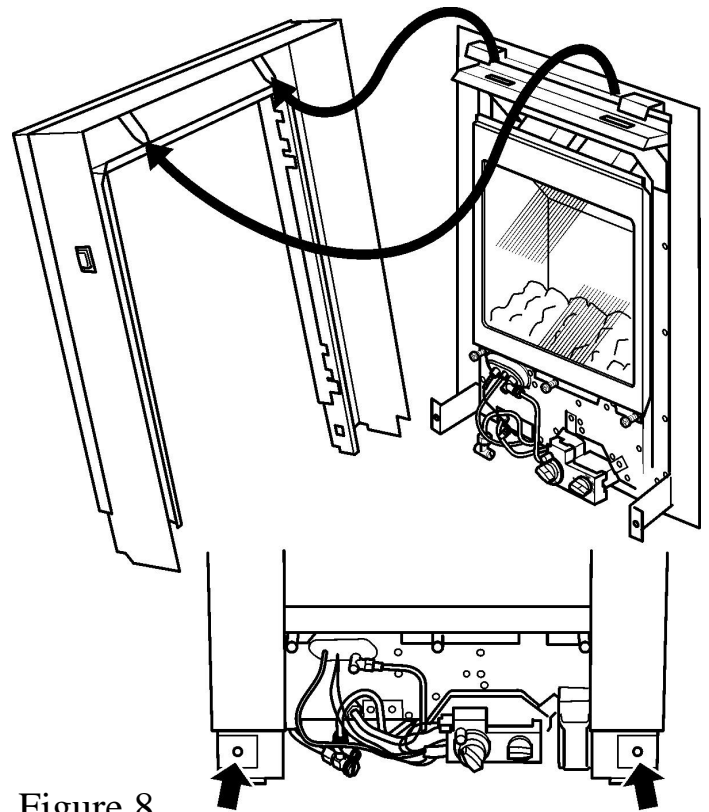

Figure 8.
- Unscrew and remove the two screws that secure the bottom of the fascia sides to the convection box (See figure 8).
- Raise the fascia to allow the retaining lugs at the top to clear the slots in the convection box hood and then lift clear (See figure 8). Be careful not trap the wiring loom when lifting clear.